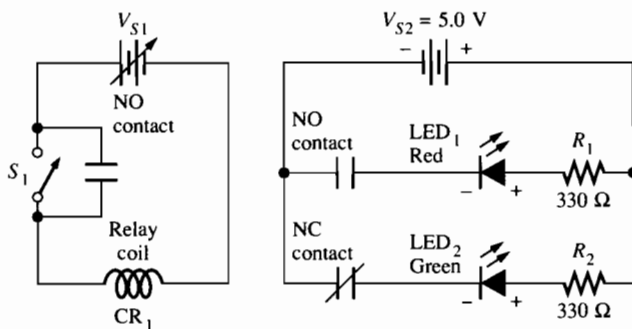

Figure 14–3
7. In this step you will learn how to construct a latching relay. Connect the unused NO contacts from the other pole on the relay in parallel with S_1 as illustrated in Figure 14–3. Set V_{S1} for the rated coil voltage. Close and open S_1 . Describe your observations.